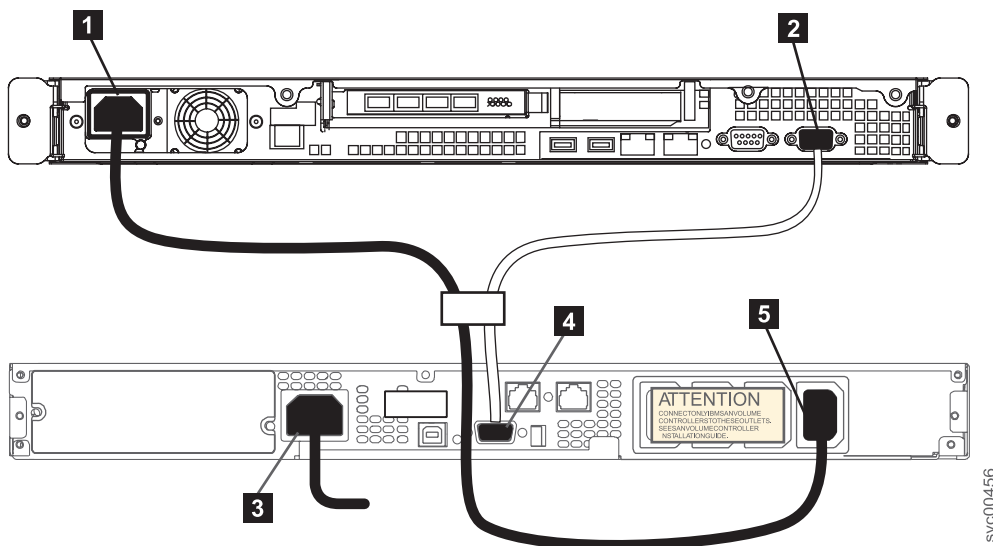

Figure 28. Connecting the SAN Volume Controller 2145-8A4 power cable to the 2145 UPS-1U
1. At the back of the SAN Volume Controller 2145-8A4 node, plug the power cable of the combined power and serial cable into the power connector **1**, as shown in Figure 28.